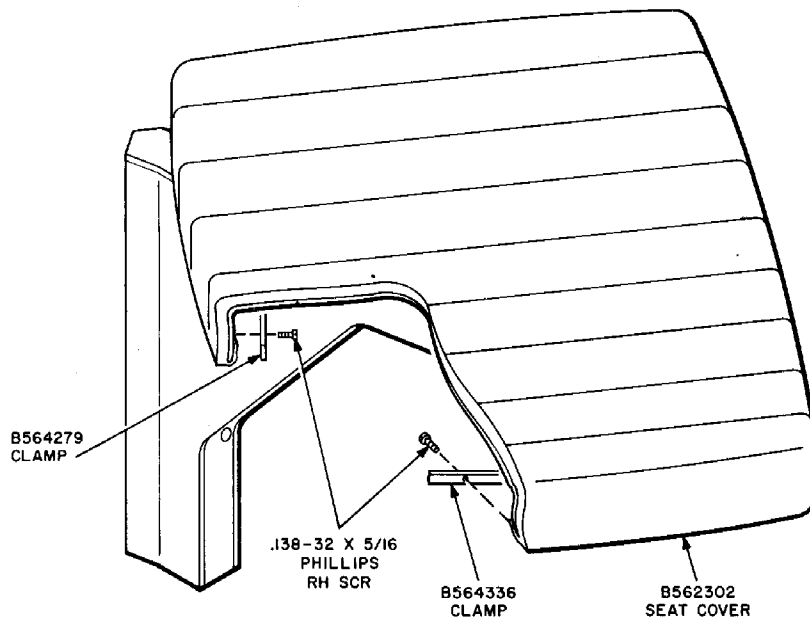

Fig. 2 — Seat Assembly
- 7.01 The seat cover may be replaced without removing the seat assembly (Fig. 2).